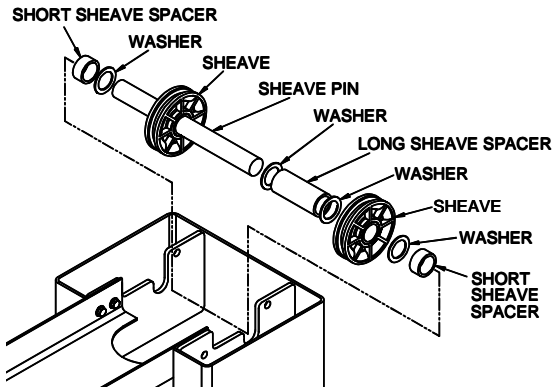

Fig 5 – Sheave Assembly
- 15) Assemble the sheaves, spacers and washers onto the sheave pin as shown in **Fig 5**. Set in cradle with all assembly parts between the two plates.